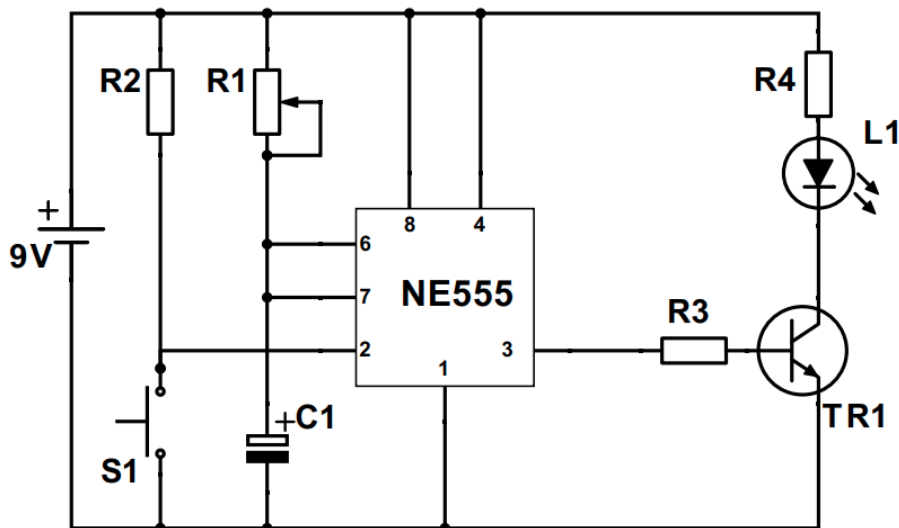

Figure 3
Figure 3 shows a simple prototype circuit schematic of the system chosen.
c. Name the below components as shown in Figure 3.
e. The circuit shown in Figure 3, is being built on breadboard as shown in Figure 5. Since a breadboard is a solder-less board, state **ONE** advantage of using this prototyping board.